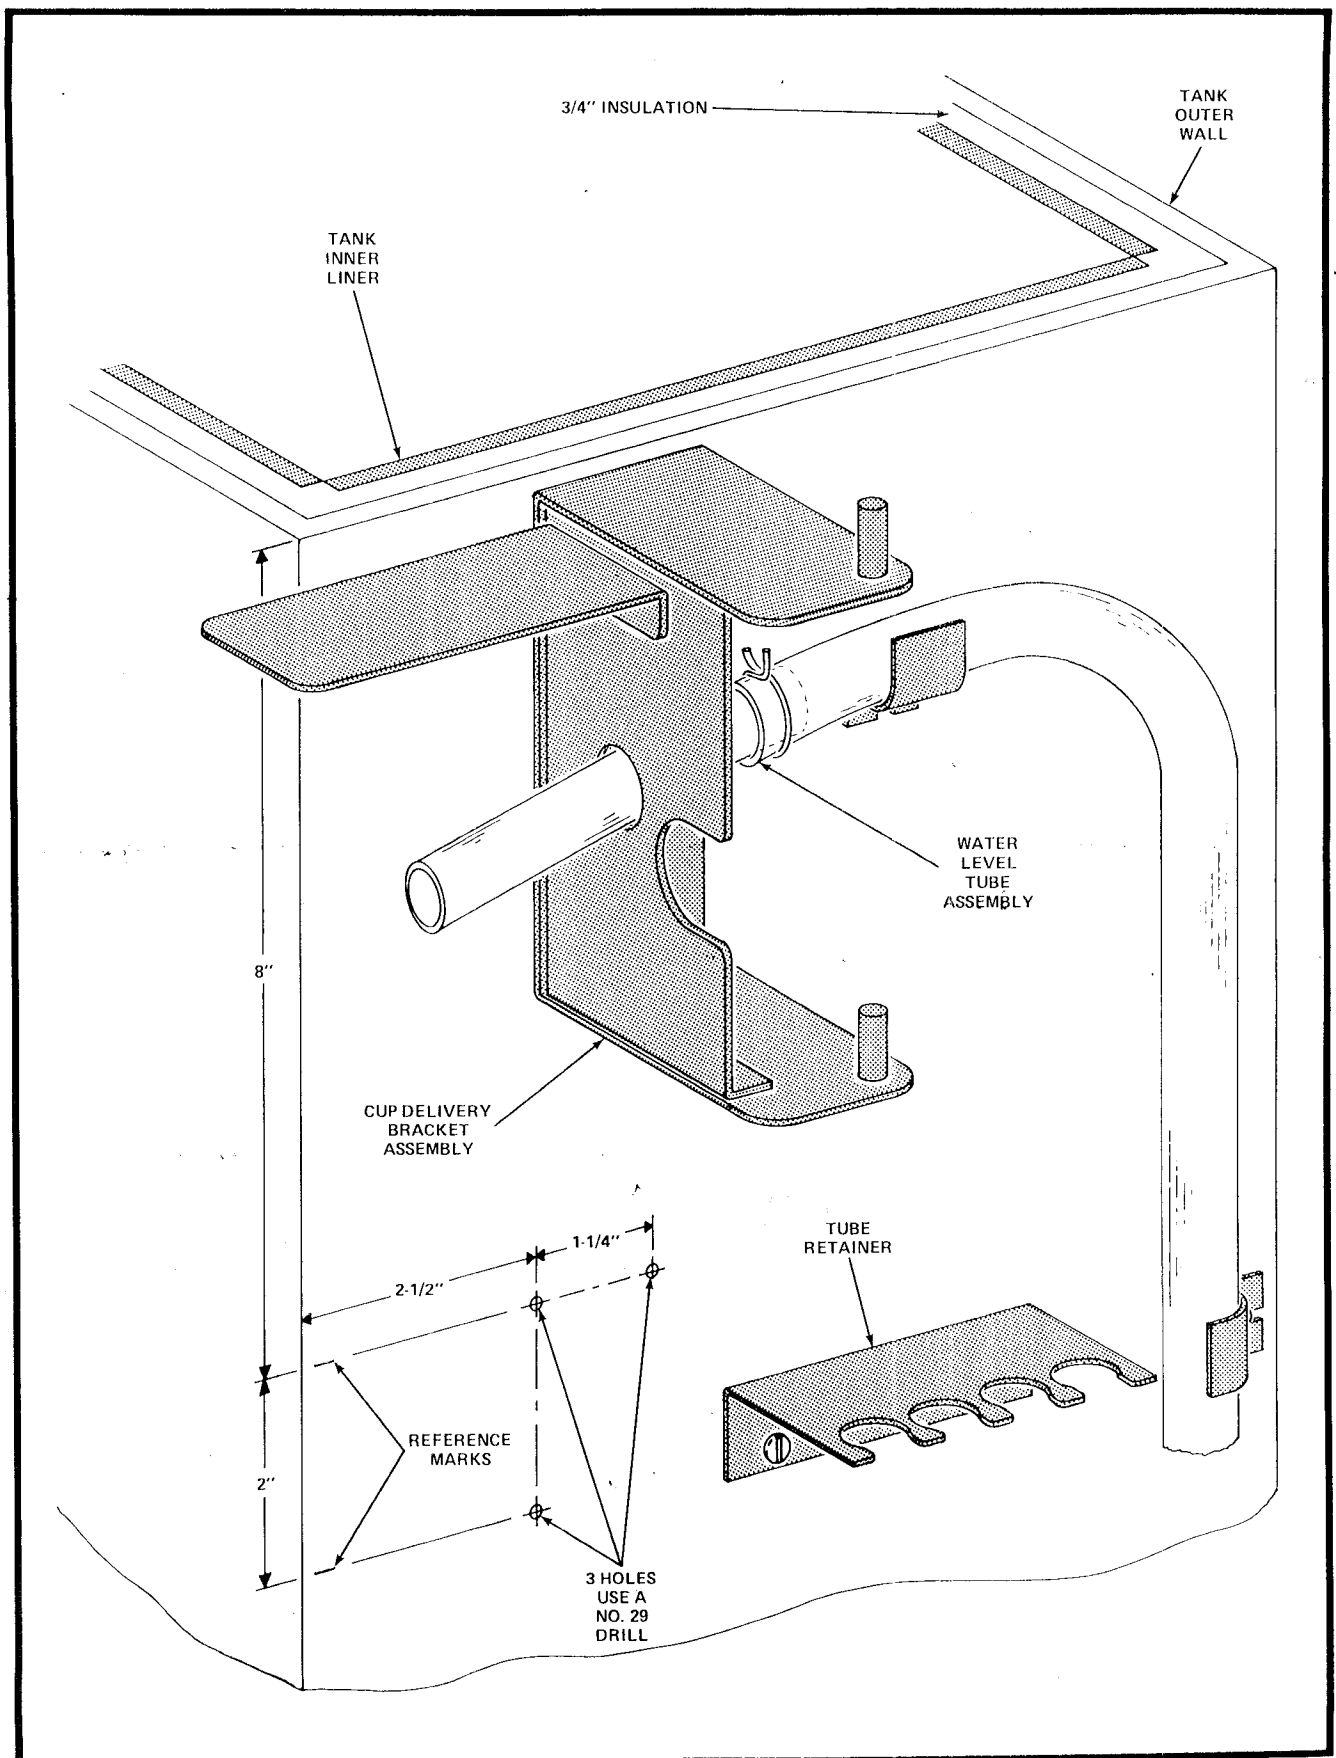

FIGURE 6
1. Measure 10 inches down from the top of the Tank outer wall, and scribe two short reference lines along the left-hand edge of the wall: one at 8 inches and one at 10 inches. See Figure 6.
2. Position a ruler horizontally, from the line scribed at 10 inches through the center of the Screws attaching the Tube Retainer to the front wall; and, scribe a horizontal line 2-1/2 inches from the edge of the wall. See Figure 6.
3. Scribe a vertical line 2-1/2 inches from the edge of the wall. It should also be 2-1/2 inches from the center of the left Screw in the Tube Retainer, and intersect the horizontal line scribed in step 2. See Figure 6.
4. Measure 2 inches up from the intersecting point, of step 3, and scribe a horizontal line. See Figure 6.
5. Position a ruler horizontally, from the 8-inch reference line scribed in step 1, through the line scribed in step 4; and, scribe a vertical line 2-1/2 inches from the left-hand edge; then, a scribe a second vertical line 1-1/4 inches to the right. See Figure 6.
6. Centerpunch the three points of intersecting lines. See Figure 6.